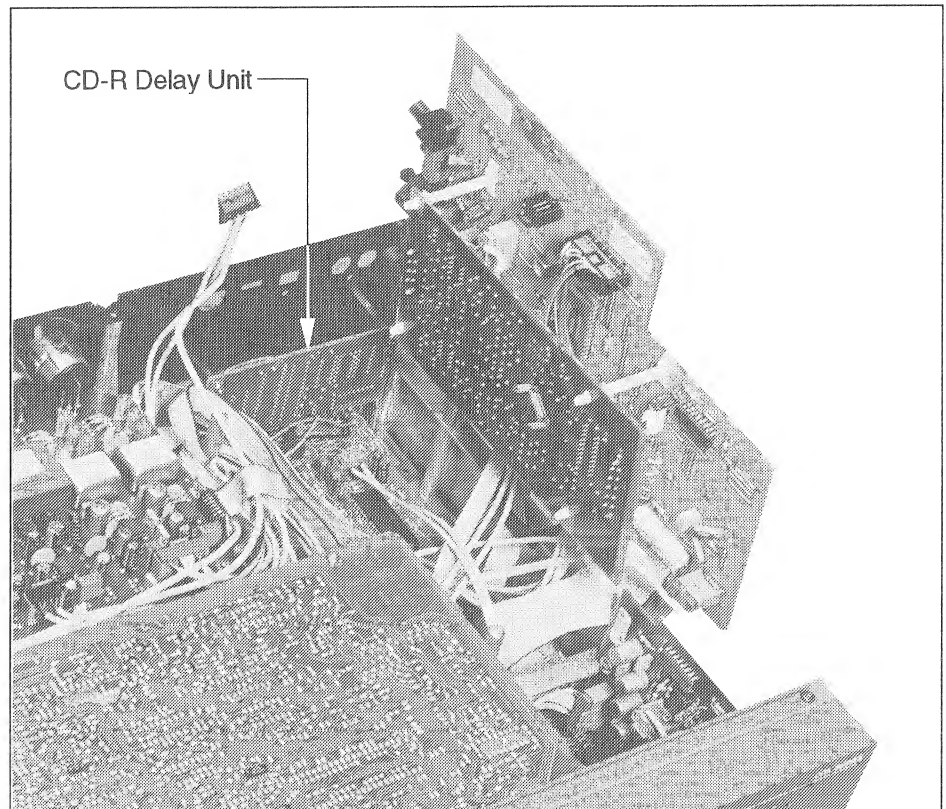

Fig. 2 CDR delay unit installed in the D740 CD recorder. Front top view.
5. Place the CD-R DELAY UNIT loosely into the designated position in the CD recorder. (see Fig. 2).